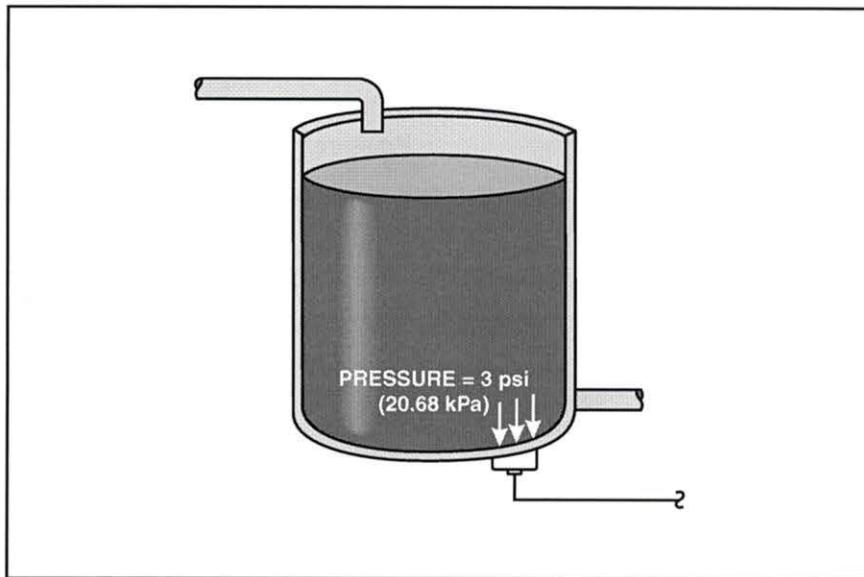

Figure 35. Pressure Sensor Measuring a Pressure of 3 psi
4. Calculate the measured output of a pressure-type level sensor shown in figure 35 that has a 0-4 psi (0-27.58 kPa) input range and a 0-20 mA output range if the pressure sensed is 3 psi (20.68 kPa).